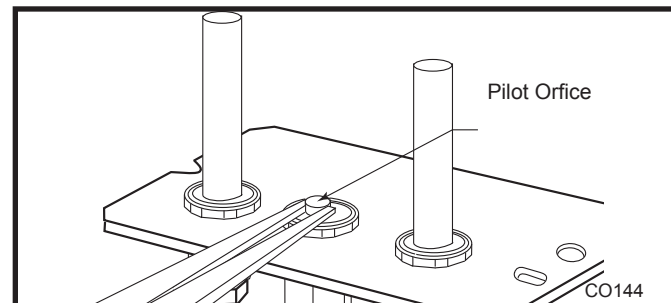

Fig. 70 Remove pilot orifice.
- Remove pilot orifice with needlenose pliers. (Fig. 70) **NOTE:** Use a wrench to hold pilot tube in place while removing the orifice.